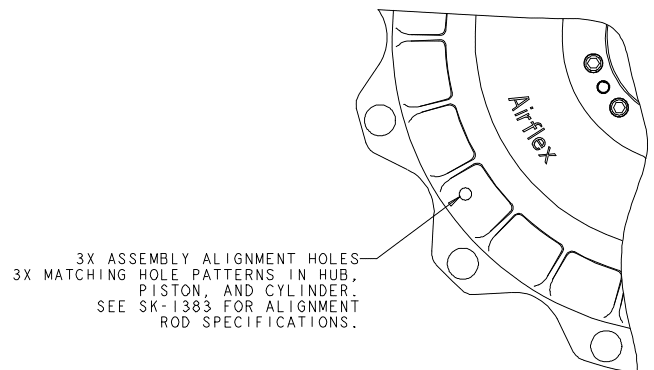

Figure 15
- 4.5.10 Install three alignment rods, See table 7 for specifications, into the three alignment holes in the piston. See figure 15.